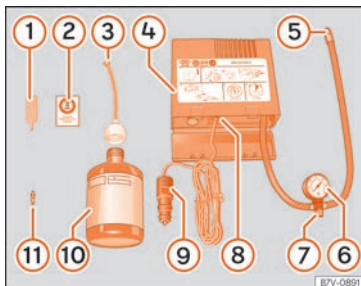

Fig. 71 Standard display: contents of the anti-puncture kit.
- Unscrew the tyre valve cap and insert. Use the » Fig. 71 (1) tool to remove the insert. Place it on a clean surface.
- Shake the tyre sealant bottle vigorously » Fig. 71 (10).
- Screw the inflator tube » Fig. 71 (3) into the sealant bottle. The bottle's seal will break automatically.
- Remove the lid from the filling tube » Fig. 71 (3) and screw the open end of the tube into the tyre valve.
- Place the insert back into the tyre valve using the tool » Fig. 71 (1).
- Screw the compressor tyre inflator tube » Fig. 71 (5) into the tyre valve.
- Check that the air bleed screw is closed » Fig. 71 (7).
- Insert the connector » Fig. 71 (9) into the vehicle's 12-volt socket »  page 163.
- Turn the air compressor on with the ON/OFF switch » Fig. 71 (8).
- Attach the sticker »» Fig. 71 ② to the instrument cluster, within the driver's visual field.